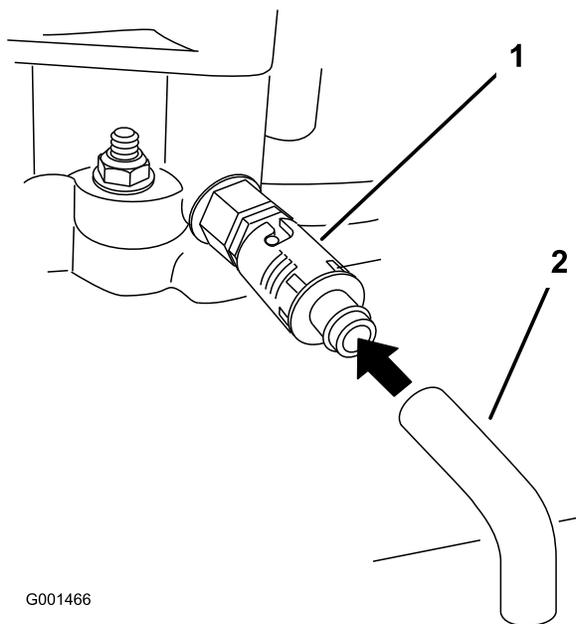

Figure 27
5. Place a pan below the drain hose. Rotate oil drain valve to allow oil to drain (Figure 27).
7. Remove the drain hose (Figure 27).